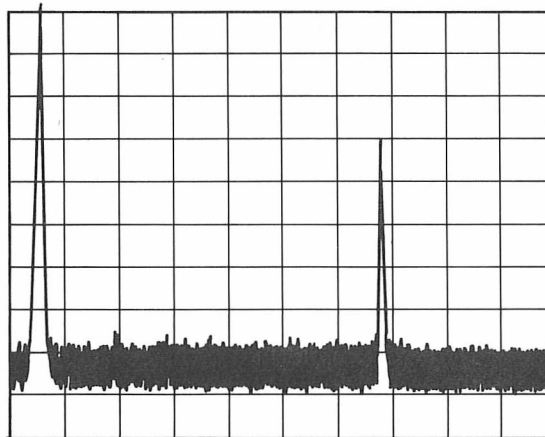

Figure 5-42. *Unleveled Squegging Displayed on Spectrum Analyzer*
29. Using the STEP UP key on both the 8340A Under Test and the Local Oscillator 8340A, step through Band 2, observing the Spectrum Analyzer display at each step. There may be responses due to mixing products. These will appear as low level signals. A squegging response will appear as a higher amplitude signal as shown in Figure 5-42. If squegging occurs at 8340A frequencies below 10 GHz, adjust A24R3 (X2A) slightly CCW to eliminate the squegging. If squegging occurs at frequencies above 10 GHz, adjust A24R4 (X2B) to eliminate the squegging. Note, if the control is adjusted and there is no effect on the response, the response is probably a mixing product.